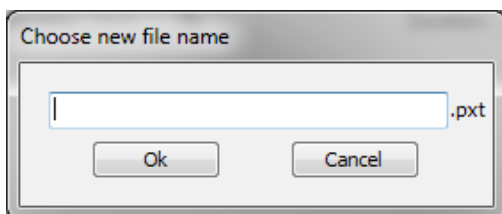

Fig 15: Naming Protocol File
- **Copy** creates copy of selected protocol. The window (Fig 15) for naming the copy file is opened first. Then the newly copied protocol is added in the *Available Protocols* list (Fig 14-1) and is prepared for adjustment in protocol editing mode. *Copy* button is not available in the editing mode.
- **New** creates new protocol. The window (Fig 15) for naming the newly created file is opened first. Then the newly created protocol is added in the *Available Protocols* list (Fig 14-1) and is prepared for adjustment in protocol editing mode. *New* button is not available in the editing mode.